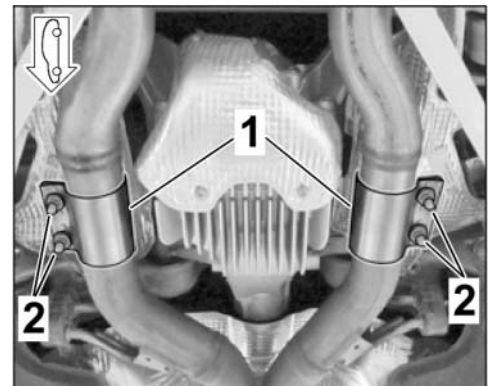

Figure 27
3.5.4 Align clamping sleeve (Ø 65 x 88, 2 x) on exhaust pipe on front silencer/rear silencer (at the left/right) so that the clamping sleeve is not touching/rubbing at any point (⇒ *Figure 27*).